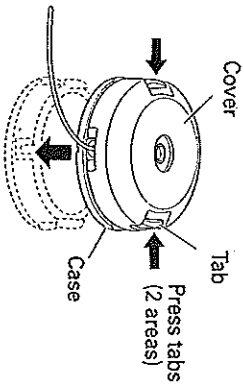

Fig. 16
- (2) Press the opposing tabs, and then remove the cover from the case. (Fig. 16)